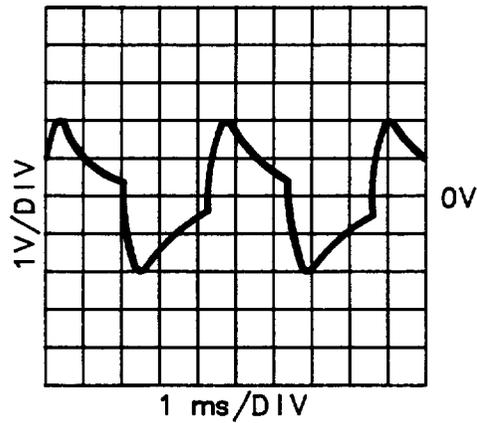

Figure 8-6. A4TP17 Variable Gain Amplifier Waveform
10. Connect the oscilloscope to A4TP17. Verify the signal shown in Figure 8-6. The signal level should be between 2.00 and 11.00 Vp-p.